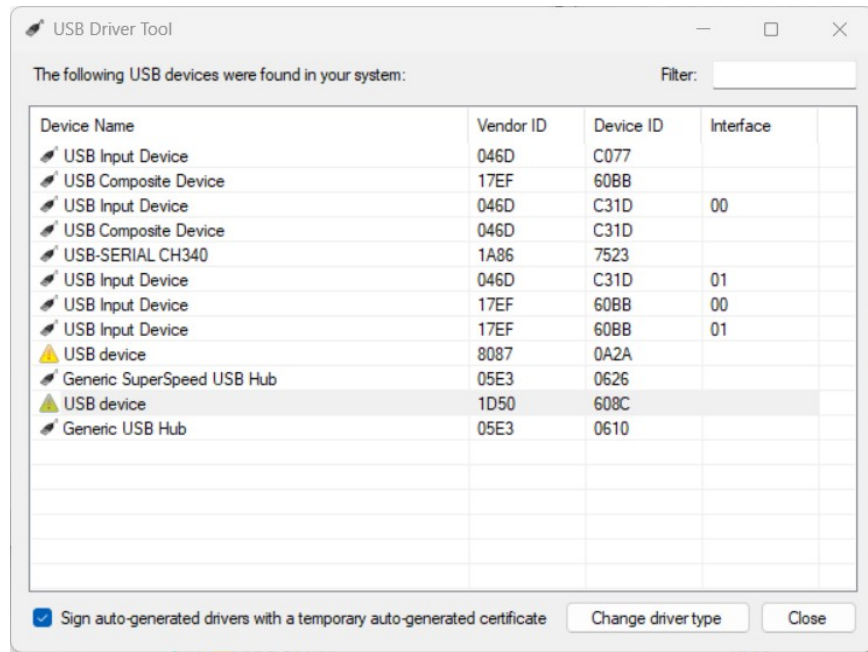

**Figure 1: Code Debugging using the built-in AVR simulator**
- 3.5 Step through the code repeatedly until the next breakpoint is reached (see **Figures 1 and 2**).